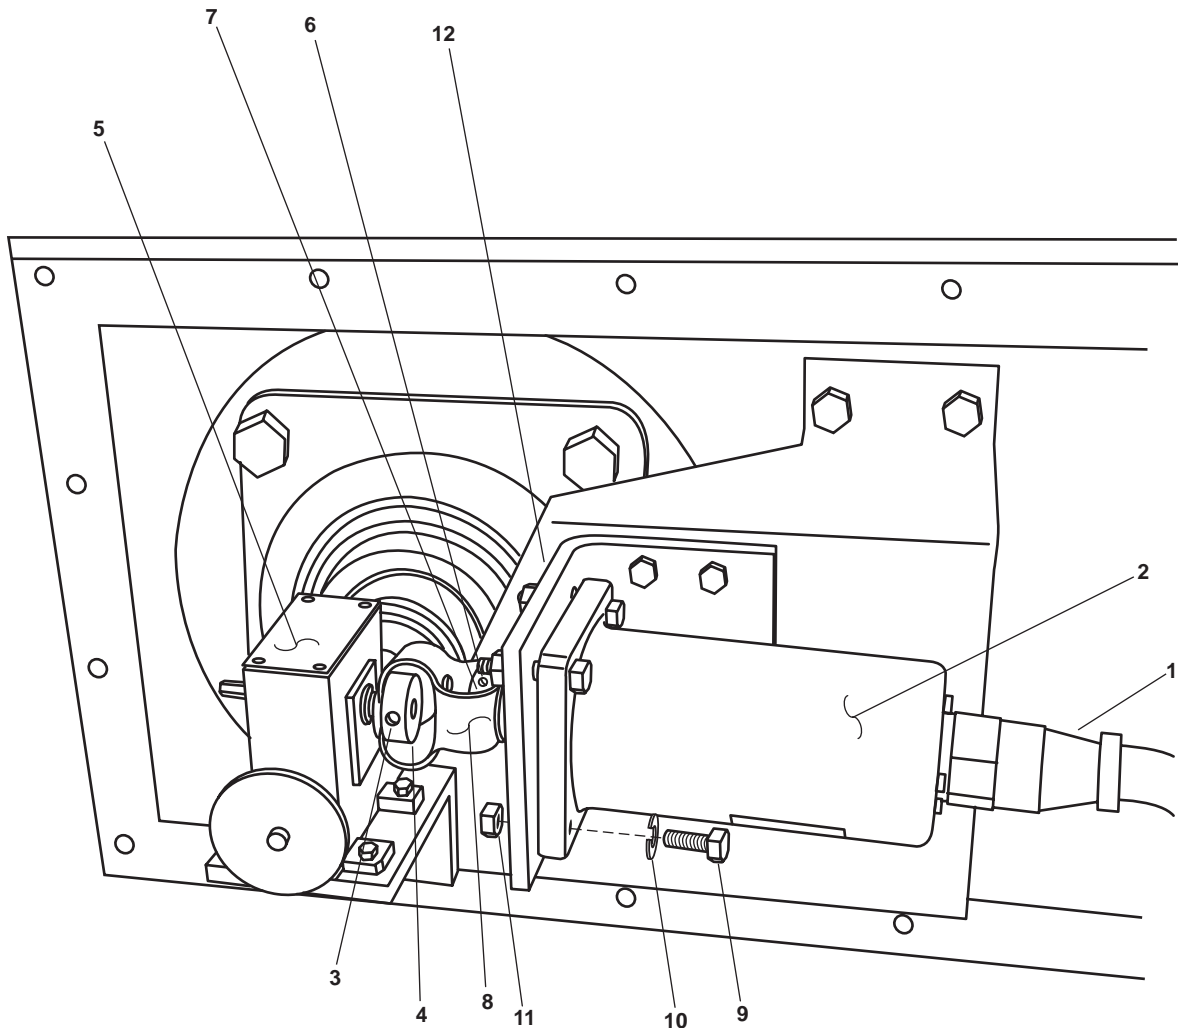

Figure 7. Cable Drive Indicator and Coupling
4. Remove the electrical connector (figure 7, item 1) from the transducer (figure 7, item 2).
5. Remove the set screw (figure 7, item 3) from the gear box pulley (figure 7, item 4).
6. Remove the gear box pulley (figure 7, item 4) from the gear box (figure 7, item 5).
7. Remove the set screw (figure 7, item 6) from the transducer pulley (figure 7, item 7).
8. Remove the transducer pulley (figure 7, item 7) from the transducer (figure 7, item 2).
9. Remove the coupling (figure 7, item 8) from the gear box pulley (figure 7, item 4) and the transducer pulley (figure 7, item 7).
10. Remove the four bolts (figure 7, item 9), the four lockwashers (figure 7, item 10), and the four nuts (figure 7, item 11) from the transducer (figure 7, item 2). Discard the lockwashers.
11. Remove the transducer (figure 7, item 2) from its mounting bracket (figure 7, item 12).
1. Install the transducer (figure 7, item 2) on its mounting bracket (figure 7, item 12) using the four bolts (figure 7, item 9), the four new lockwashers (figure 7, item 10) and the four nuts (figure 7, item 11).
2. Install the coupling (figure 7, item 8) on the transducer pulley (figure 7, item 7) and the gear box pulley (figure 7, item 4).
3. Install the transducer pulley (figure 7, item 7) on the transducer (figure 7, item 2).
4. Install the gear box pulley (figure 7, item 4) on the gear box (figure 7, item 5).
5. Install and tighten the set screw (figure 7, item 6) in the transducer pulley (figure 7, item 7).
6. Install and tighten the set screw (figure 7, item 3) in the gear box pulley (figure 7, item 4).
7. Install the electrical connector (figure 7, item 1) on the transducer (figure 7, item 2).